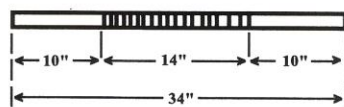

FIGURE 10
6. ALSO USING 3/4" TUBING, MARK AND BEND THE FRONT STEERING SUPPORT HOOP AS SHOWN IN FIGURES 10 AND 11.